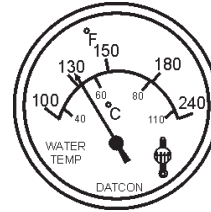

Figure 72. Coolant Temperature Gauge
15. The coolant temperature gauge (Figure 72) will indicate the coolant temperature. Under normal operating conditions the coolant temperature is approximately 215°F.